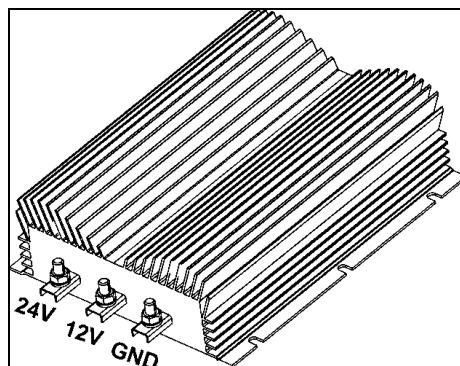

FIGURE 2: SURE POWER 52210 BATTERY EQUALIZER
4. Carefully disconnect the ground cable (**OVE**) at the battery equalizer GND post first (*always disconnect the equalizer ground cable first and connect ground cable last*) by removing the nut (figure 2). Do not allow this cable to touch the other connections on the equalizer because all cables are connected to the batteries.